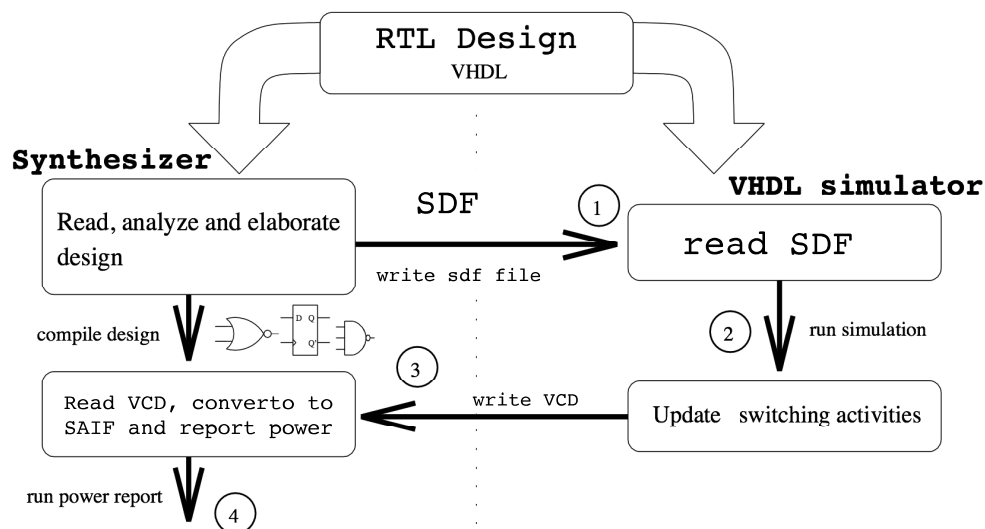

Figure 3.2:
Let’s consider the overall annotation process in figure 3.2: The process is inclusive of two parts, one in the VHDL simulator and another in the design compiler (Synopsys synthesizer). First (1), after having analyzed, elaborated and compiled the design, the synthesizer can generate a forward annotation SDF file which accounts for the names of the netlists on the design. The SDF or Standard Delay Format file contains the delays of your circuit.